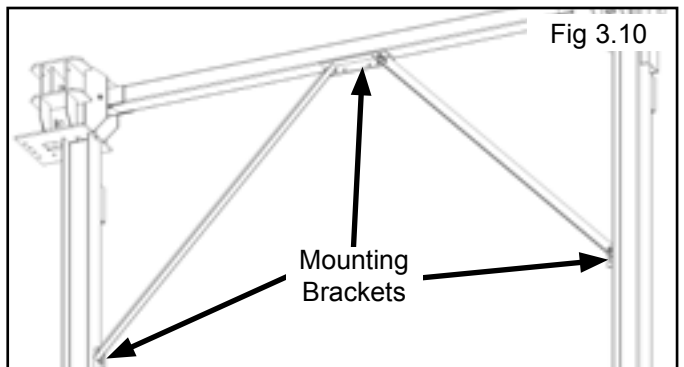

Fig 3.10
14. Place two Long Angles on to the Long Angle Brackets of the Posts and the Crosstube and align the Long Angle mounting holes with the Crosstube mounting holes and Post mounting slots. (See Fig 3.10)